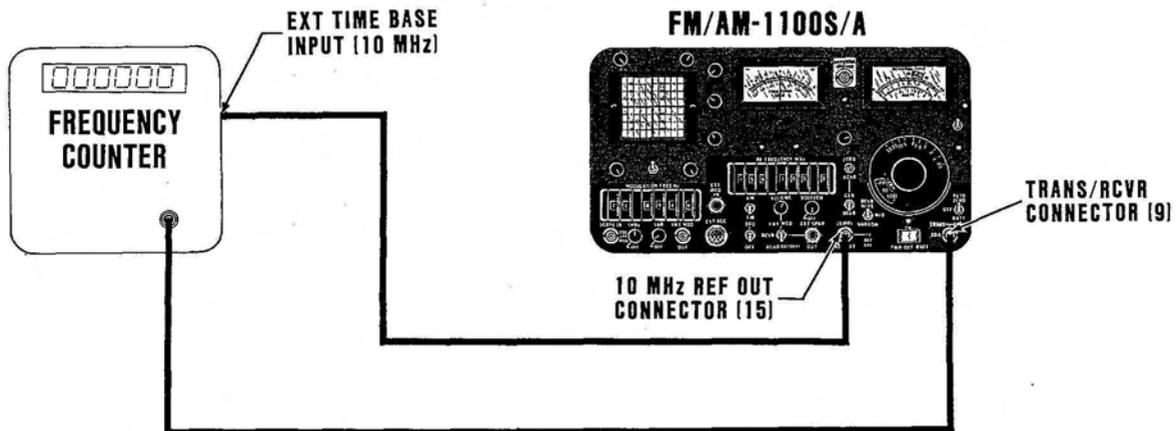

Figure 3-41 FM/AM-1100S/A and Frequency Counter Interconnection
- 26. Connect a coax cable between input of Frequency Counter and TRANS/RCVR Connector (9).
- 27. Connect a second coax cable between 10 MHz REF OUT Connector on front panel of FM/AM-1100S/A and external time base input (10 MHz) on Frequency Counter; equipment hook-up should now appear as shown in Figure 3-41.